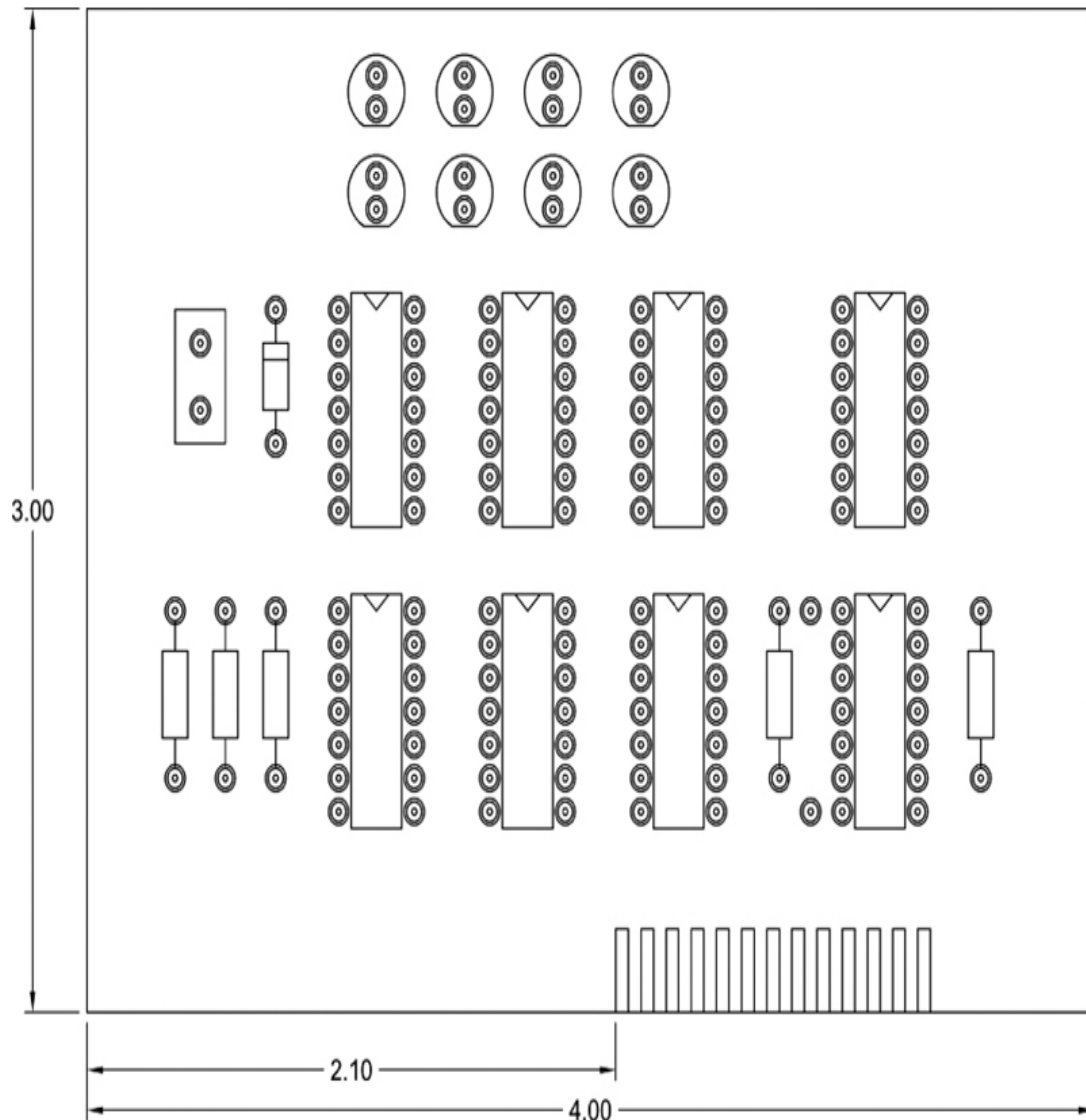

Figure 9-49
4. Create the board outline and move and copy the parts to arrange them as shown in Figure 9-49.